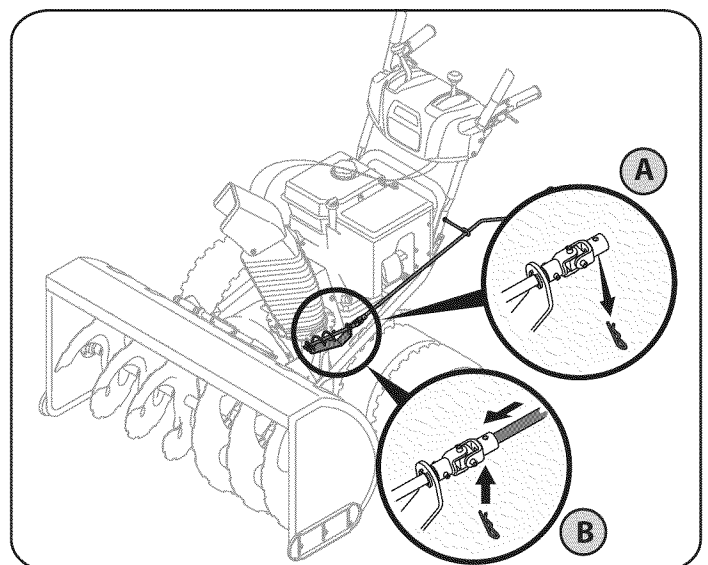

Figure 3
1. Remove the hairpin clip from the spiral control as shown in A of Fig. 3.
2. Insert the chute directional control rod into the fitting on the spiral control as seen in B of Fig. 3.
3. Secure with the hairpin clip previously removed. See Fig. 3.